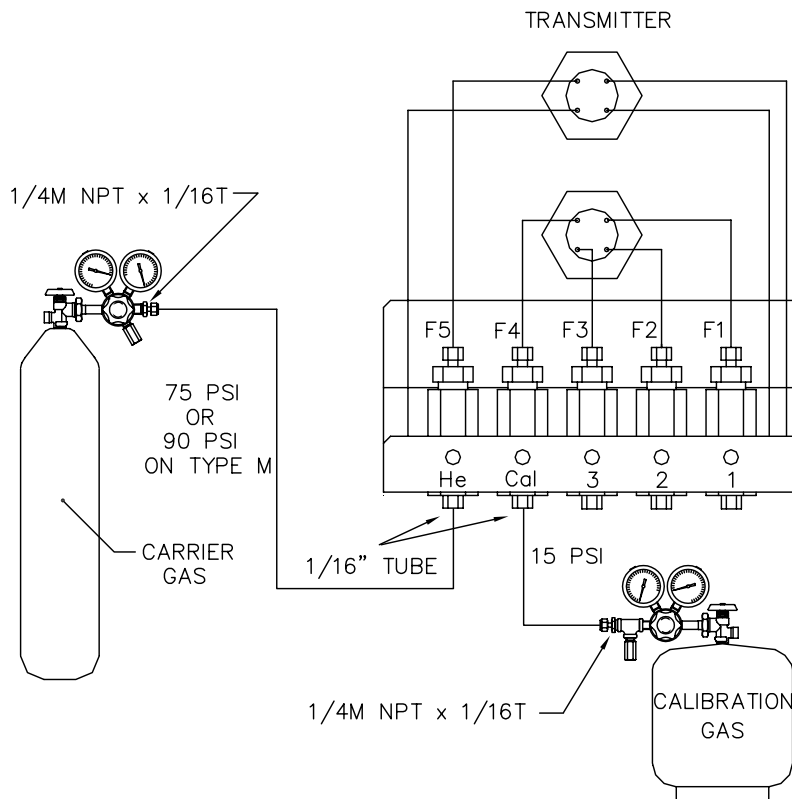

Figure 38 Carrier and Calibration Gas Connections
- 1) Locate Carrier Gas Input Filter on Btu Transmitter (see Figure 38).